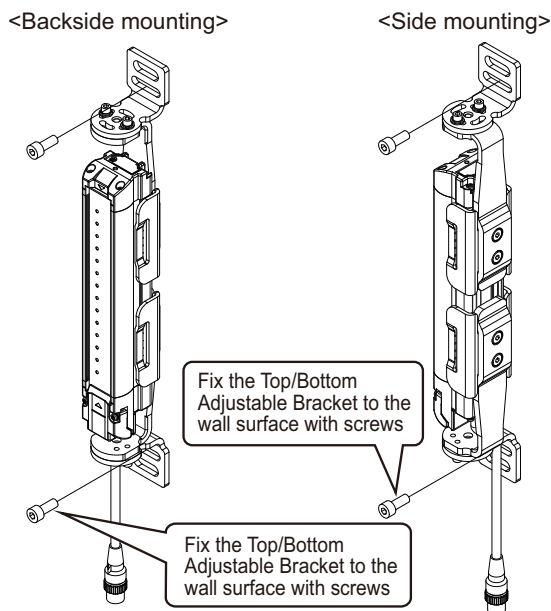

Fig. 3
- Securely tighten screws to fix the Top/Bottom Adjustable Bracket to the mounting position of the wall surface. (Fig. 3)